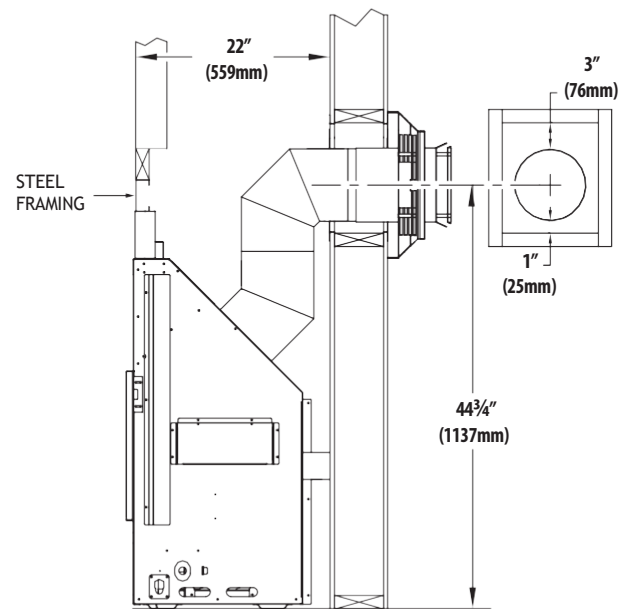

Figure 3.7, Horizontal Vent Termination Rough Framing
1. Measure from floor level of the fireplace to the center of where the vent pipe will penetrate the wall. The dimensions in Figure 3.7 is used with a Simpson DuraVent elbow.
- Rigid pipe dimensions in Figure 3.7 reflect Simpson Duravent 5" x 8" coaxial pipe. Other manufacturers product dimensions may vary.